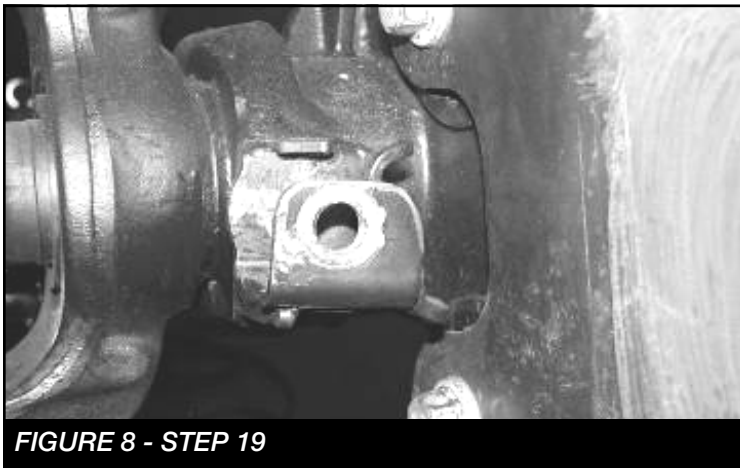

**FIGURE 6 - STEP 18**
18. Install the coil springs FT30648 into in the factory location using the original factory upper coil isolator. **SEE FIGURE 6**